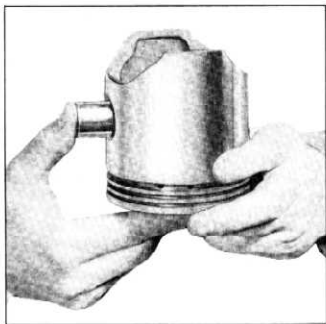

Fig. 48—Fitting Piston Pin—Cast Iron Piston
5. Expand the reamer by easy stages and repeat the reaming operation until the piston pin is fitted. The proper fit of the piston pin in a cast iron piston is a "thumb push" fit as shown in Figure 48.